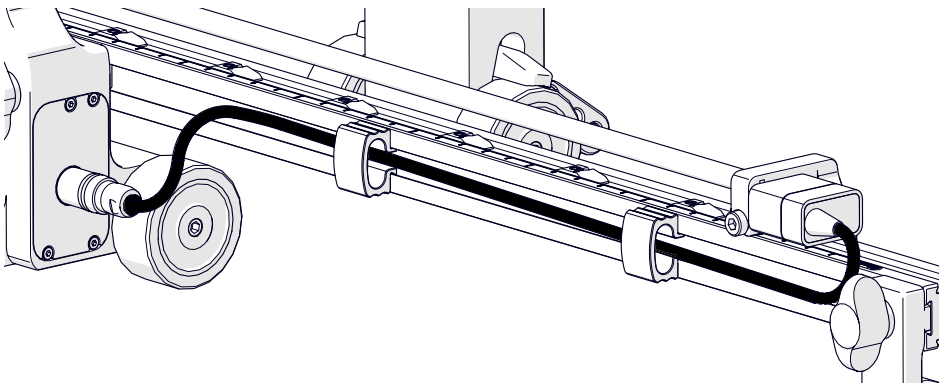

Fig. 67 - Connect index encoder to index encoder connection
4. Route the cable along the frame bar using the cable clips. Plug the encoder end to the index encoder connection on the side of the corrosion link (Fig. 67).